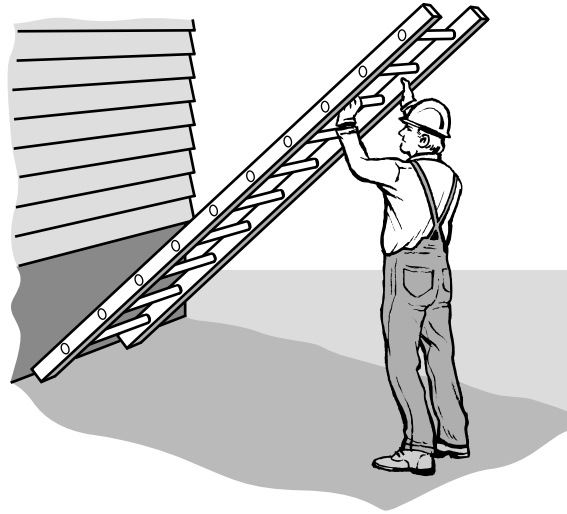

Figure 8 — Setting up a ladder alone
2. Starting at the top of the ladder, lift the end over your head and walk under the ladder toward the wall, moving your hands from rung to rung as you go (Figure 8).